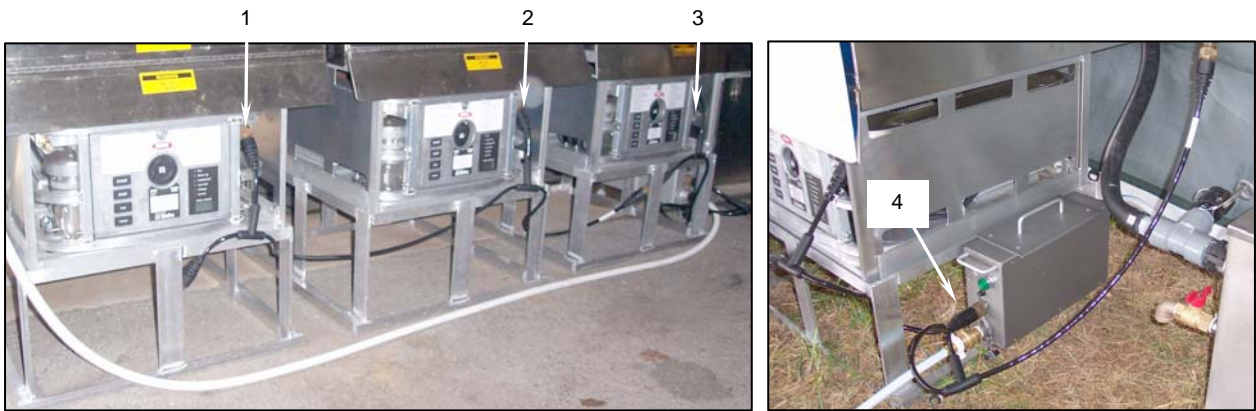

Figure 36. MBU 2-Branch Power Cable Removal.
- i. Disconnect the two 2-branch MBU power cables (**Figure 36, Item 1**) and (**Figure 36, Item 3**) and (**Figure 36, Item 3**) from the burner units and from the sink fill pump assembly (**Figure 36, Item 4**).